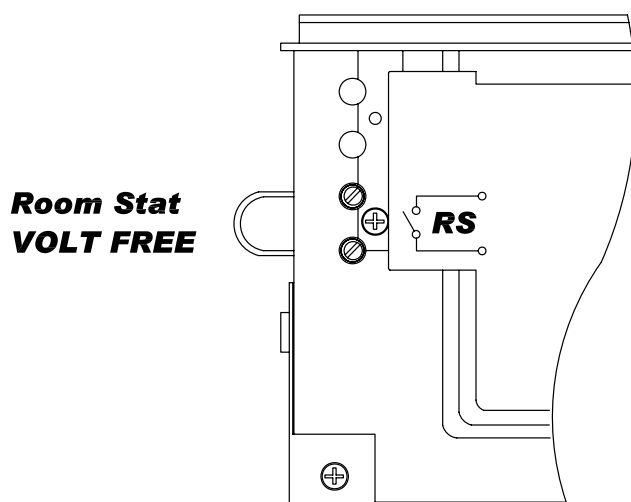

Fig. 59
- 7.27.6** Replace in reverse order (ensure all electrical connections are made correctly) (Fig. 59).
**7.28 EXTERNAL HEATING CONTROLS (Fig.59).**